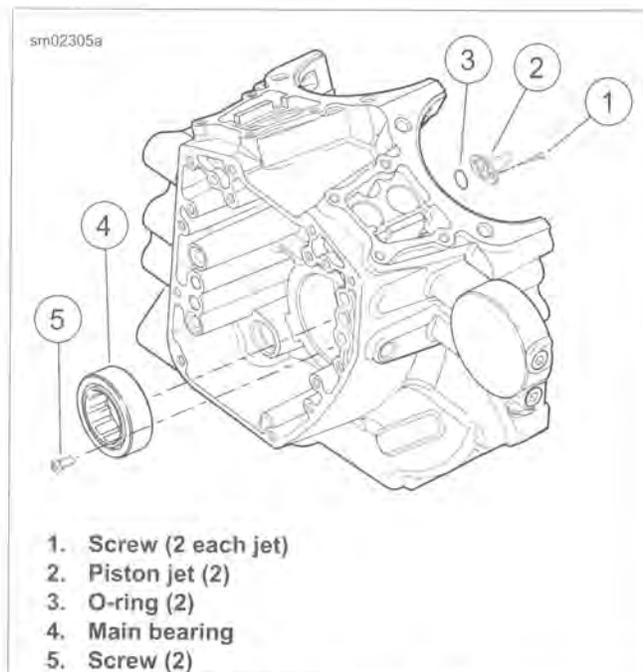

Figure 3-123. Piston Jets
- See Figure 3-123. Remove two main bearing retaining screws (5) from the cam compartment side.
10. See Figure 3-123. Install two **new** main bearing retaining screws (5) from the cam compartment side. Tighten screws to 40-70 **in-lbs** (4.5-7.9 Nm).
1. See Figure 3-123. Remove two screws (1) to free piston jet (2) from crankcase.
2. Remove O-ring (3) from groove in mounting flange of jet. Discard O-ring.
1. See Figure 3-123. Apply a very thin film of clean engine oil to **new** O-ring (3). Install **new** O-ring in groove of jet mounting flange.
2. With jet pointed upward, secure piston jet (2) with two screws (1). Tighten to 25-35 **in-lbs** (2.8-3.9 Nm).